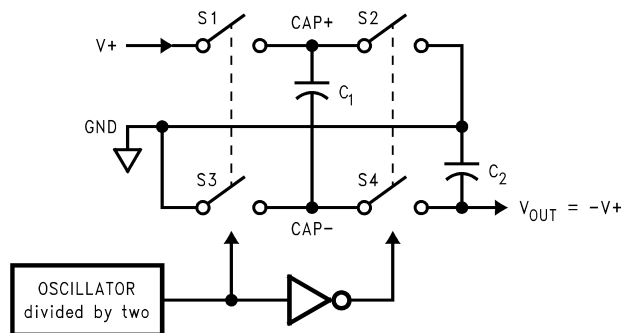

Figure 10. Voltage Inverting Principle
The LM2664 contains four large CMOS switches which are switched in a sequence to invert the input supply voltage. Energy transfer and storage are provided by external capacitors. Figure 10 illustrates the voltage conversion scheme. When  $S_1$  and  $S_3$  are closed,  $C_1$  charges to the supply voltage  $V_+$ . During this time interval, switches  $S_2$  and  $S_4$  are open. In the second time interval,  $S_1$  and  $S_3$  are open; at the same time,  $S_2$  and  $S_4$  are closed,  $C_1$  is charging  $C_2$ . After a number of cycles, the voltage across  $C_2$  will be pumped to  $V_+$ . Since the anode of  $C_2$  is connected to ground, the output at the cathode of  $C_2$  equals  $-V_+$  when there is no load current. The output voltage drop when a load is added is determined by the parasitic resistance ( $R_{ds(on)}$  of the MOSFET switches and the ESR of the capacitors) and the charge transfer loss between capacitors. Details will be discussed in the following application information section.
- $R_{SW}$  is the sum of the ON resistance of the internal MOSFET switches shown in Figure 10. (1)